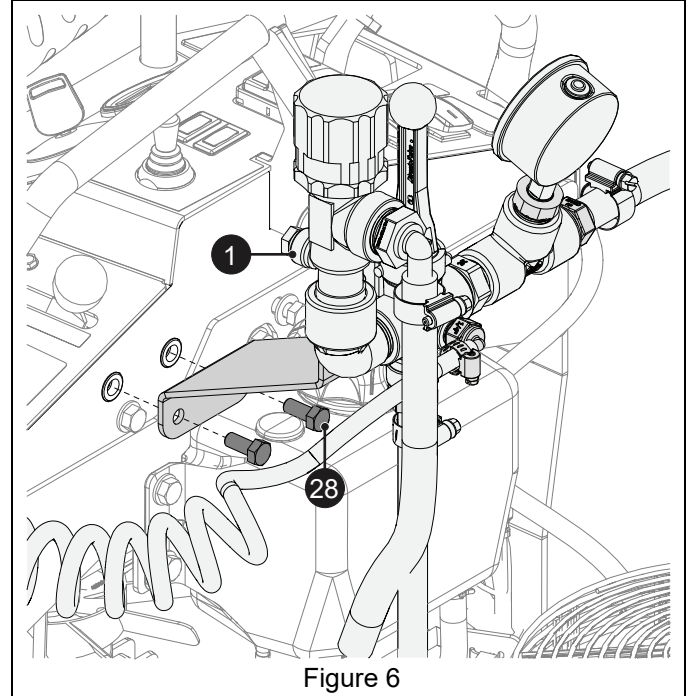

Figure 6
- Position the control valve assembly (item 1) at the front of the operator tower and secure with two 5/16" x 3/4" hex bolts (item 28). See Figure 6.